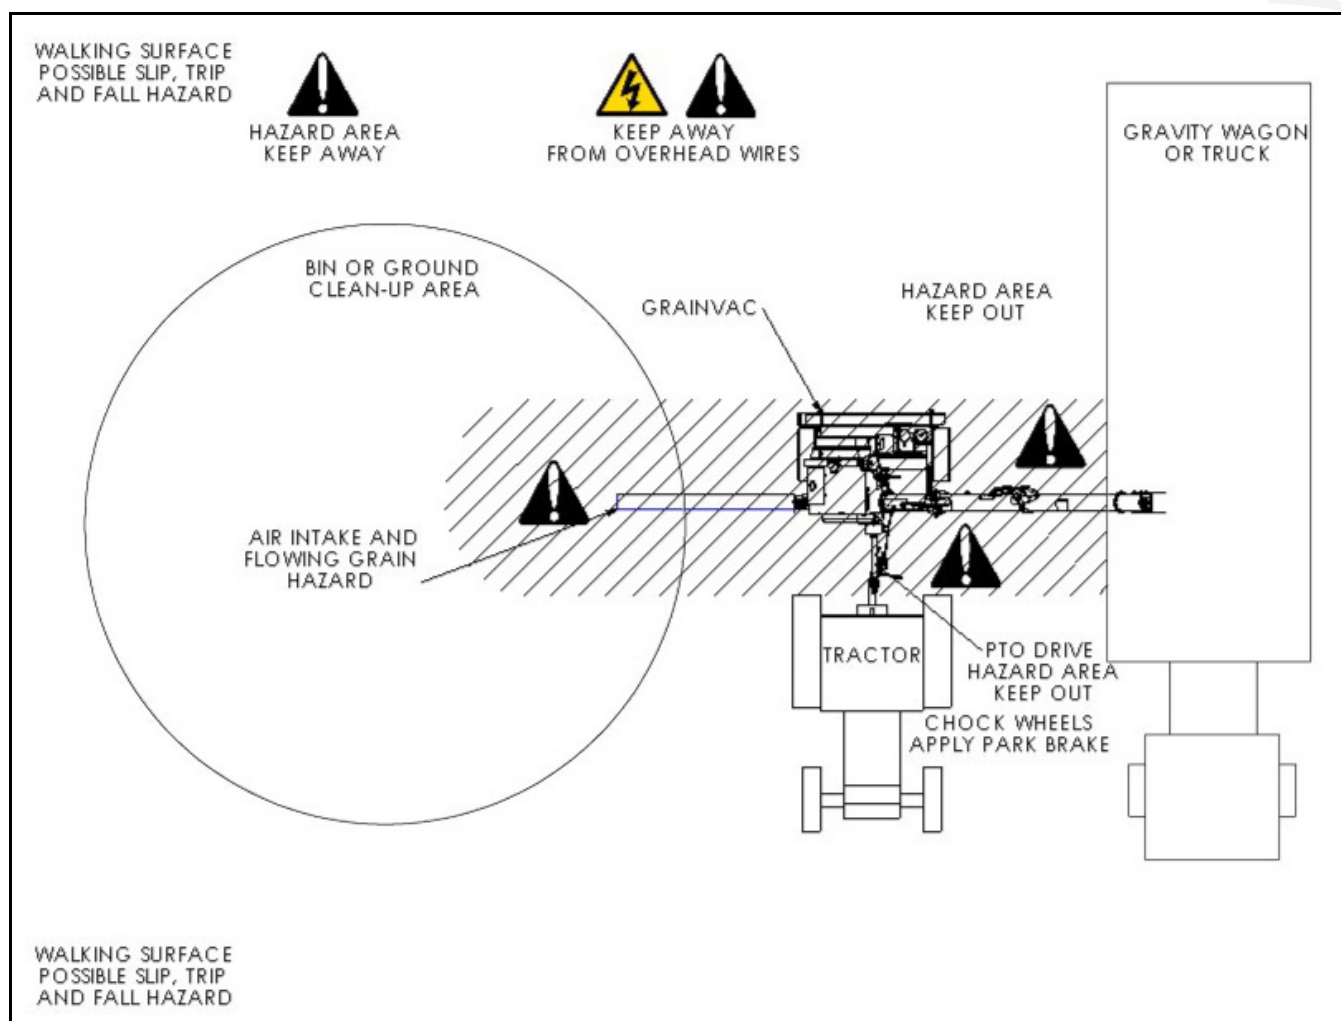

Figure 4.3 Work Area Diagram
7. Assess the site while keeping in mind that a truck or grain cart must be able to easily drive under the auger once in working position (see Figure 4.3).